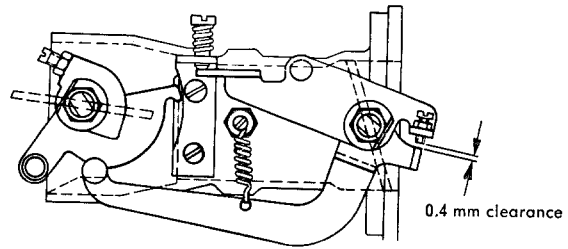

Fig. 01-3/22
3. Adjust the idle mixture adjustment screw (6) of Stage 1 on both carburetors by turning it in and out evenly until
4. Readjust the idle speed to the specified values by means of the idle adjustment screws (9).
7. Set the adjustment screw at throttle valve lever of rear carburetor in such a manner that there is a clearance of 0.4 mm between the screw and the relay lever. Then tighten the locking nut of the adjustment screw. During the adjustment the control linkage should be in idle position and the start mechanism should be completely disengaged, that is, the choke valves should be horizontal. The relay lever should be pressed to the choke valve lever and cam by means of the return spring. If required, the return spring should be replaced (Fig. 01-3/22).